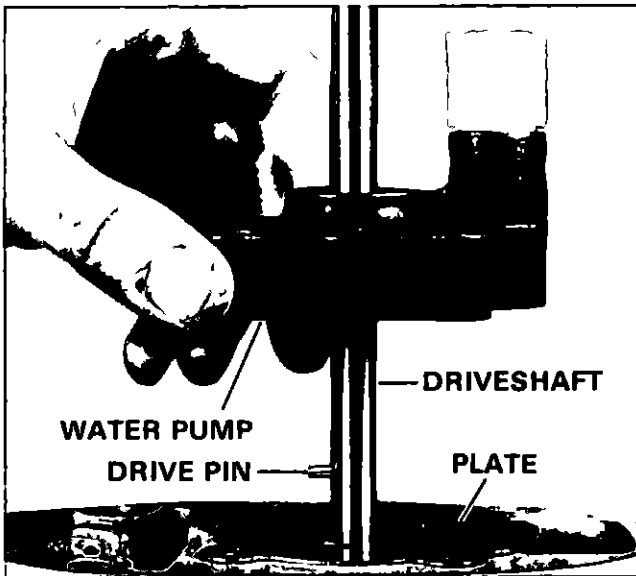

Figure 45. Removing Water Pump.
- A Remove four (4) cap screws, securing pump to upper gear housing Figure 45